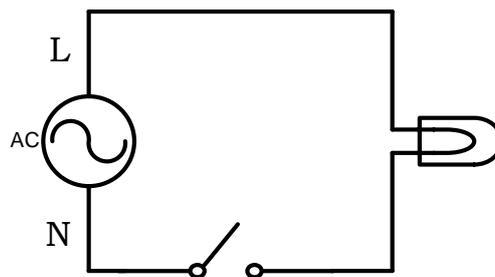

Figure 1.2: Circuit diagram for assignment no.-5
5. What is the drawback of the switch connection of the circuit in Figure 1.2?